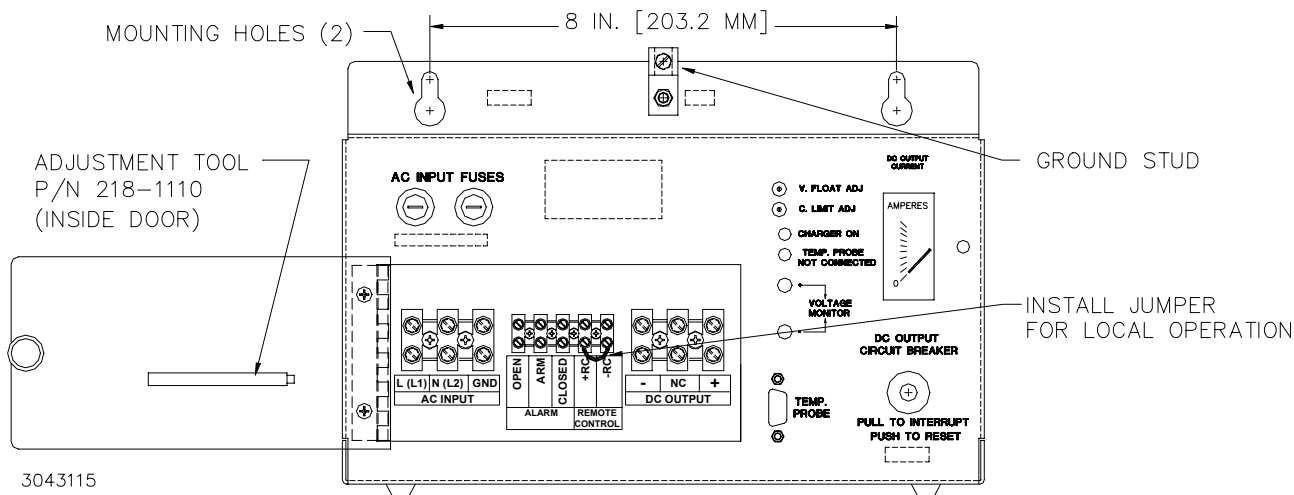

FIGURE 1. KES 48 VOLT ENGINE START BATTERY CHARGER, FRONT VIEW
- **Adjustable Float Voltage** - The float voltage is adjustable over a wide range (see Table 1 for adjustment range and factory setting). Adjust the output voltage from the front panel using the tool on the back of the front panel door (see Figure 1) to adjust the V. FLOAT ADJ potentiometer while monitoring the + and – VOLTAGE MONITOR test points with a precision digital voltmeter.
- **Adjustable Current Limit** - The current limit is adjustable over a wide range (see Table 1 for adjustment range and factory setting). Adjust from the front panel using the C. LIMIT ADJ potentiometer using the tool on the back of the front panel door (see Figure 1).
3. Connect the local ground connection to the ground stud (see Figure 1) using the 10-32 x 3/8 ACF Brass Hex nut provided (Kepco P/N 102-0007)
Two slotted holes, 8 inches apart, are provided on the upper rear chassis (See Figure 1) to wall mount the unit. The unit also has four feet for bench top operation. The unit has forced air cooling from a single fan located within the integral RKW power supply as well as ventilation holes in the chassis which must be kept clear from obstructions to ensure proper air circulation. Enough space must be provided around the chassis to allow the hot air to exhaust from the components inside the chassis.
3. Connect the local ground wire to the ground stud (see Figure 1) using the 10-32 x 3/8 ACF Brass Hex nut provided (Kepco P/N 102-0007)